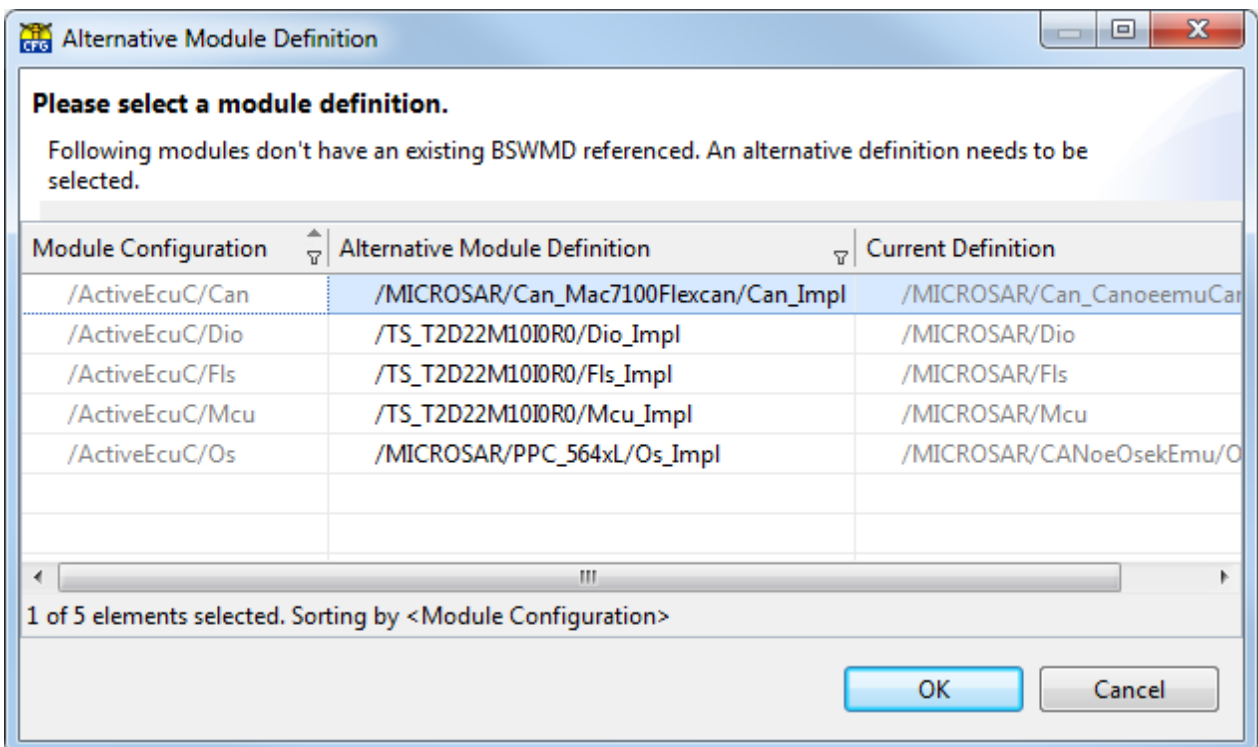

Figure 6-1 Alternative module definition dialog for switching module definitions
3. When the Alternative Module Definition window is shown, select the appropriate module definition for each module. See Figure 6-1 for an example.